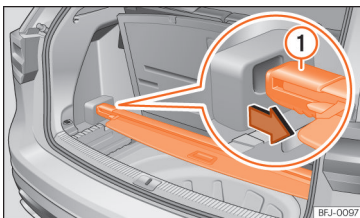

Fig. 154 Under the boot floor: store the rear shelf.
- Place the rear shelf in the corresponding housing » **Fig. 154**.